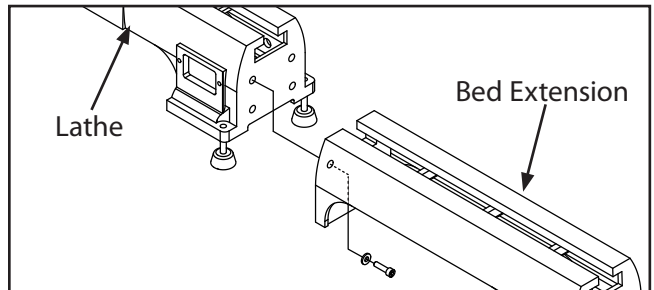

Figure 2. Joining lathe and bed extension.
2. Attach bed extension to tailstock-end of ST1008 bed, using the four provided cap screws and flat washers (see **Figure 2**). Finger tighten only for now.